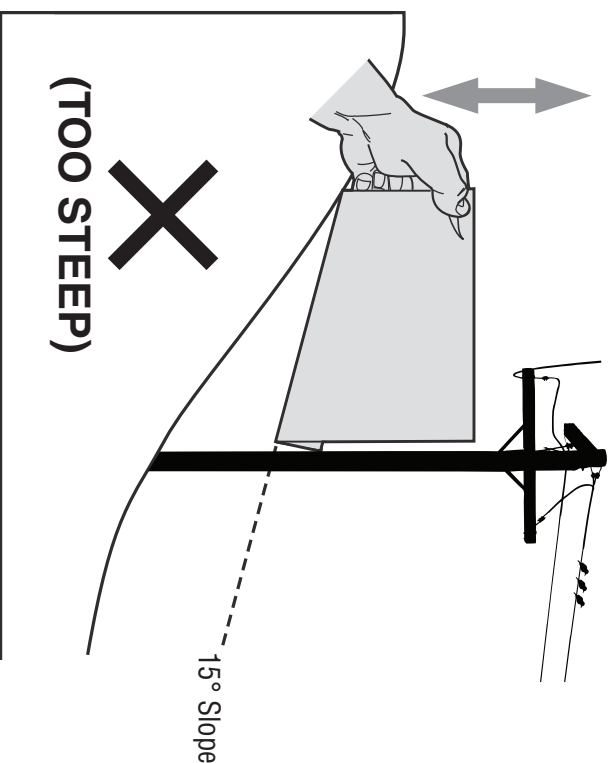

Figure 2
3. Align either side of the slope gauge with the object (See Figure 1 and Figure 2).